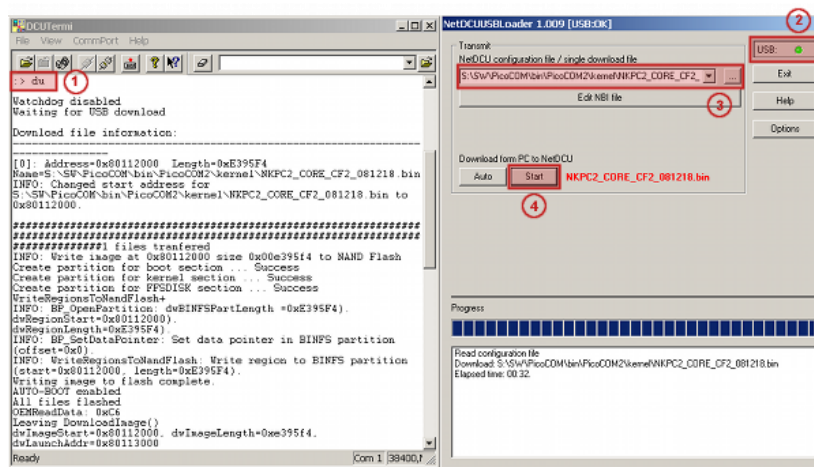

Figure 29: Using the NetDCU-USBLoader utility
To download the WindowsCE Kernel by USB use the command DU (1) and start the NetDCU-USBLoader utility on your desktop PC. As soon as the connection is established, the button in the top right corner of NetDCU-USBLoader turns from red to green (2). Select the respective **<NK-kernel-image>.bin** file (3) and click on 'Start' button (4). You should now see progress similar to Figure 29.